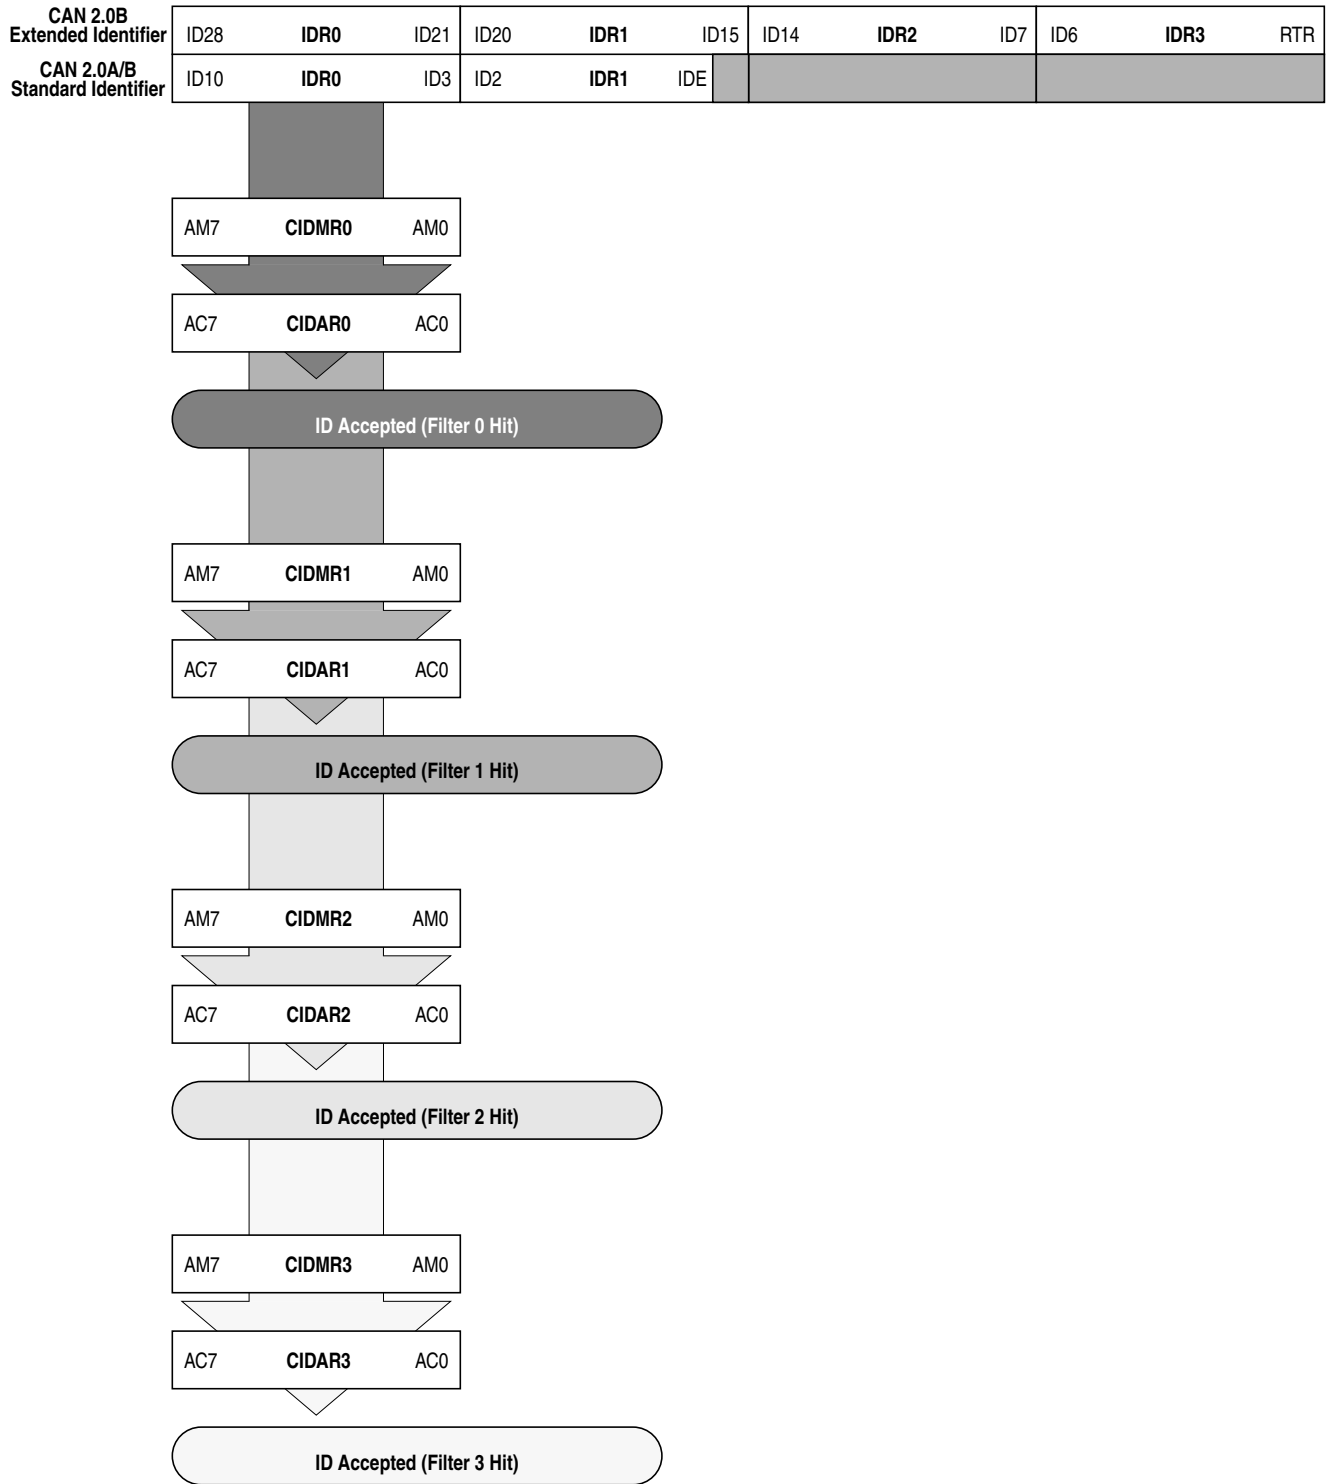

Figure 16-42. 8-bit Maskable Identifier Acceptance Filters
- Eight identifier acceptance filters, each to be applied to the first 8 bits of the identifier. This mode implements eight independent filters for the first 8 bits of a CAN 2.0A/B compliant standard identifier or a CAN 2.0B compliant extended identifier. Figure 16-42 shows how the first 32-bit filter bank (CANIDAR0–CANIDAR3, CANIDMR0–CANIDMR3) produces filter 0 to 3 hits. Similarly, the second filter bank (CANIDAR4–CANIDAR7, CANIDMR4–CANIDMR7) produces filter 4 to 7 hits.